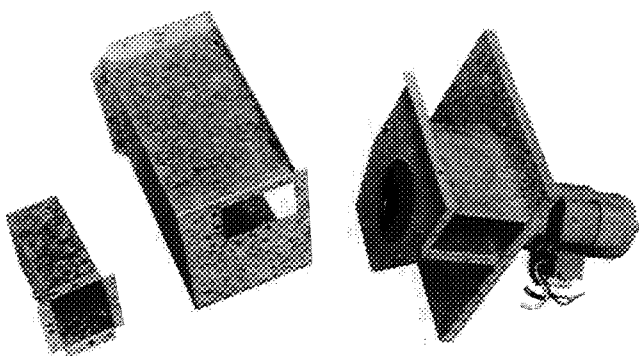

**Fig. 23 — Combustion Blower Removal**
**COMBUSTION-AIR BLOWER** — Clean periodically to assure proper airflow and heating efficiency. Inspect blower wheel every fall and periodically during the heating season. For first heating season, inspect blower wheel bimonthly to determine proper cleaning frequency. Inspect wheel by shining a flashlight into the opening. If cleaning is required, remove blower assembly from unit and then disassemble as shown in Fig. 23.